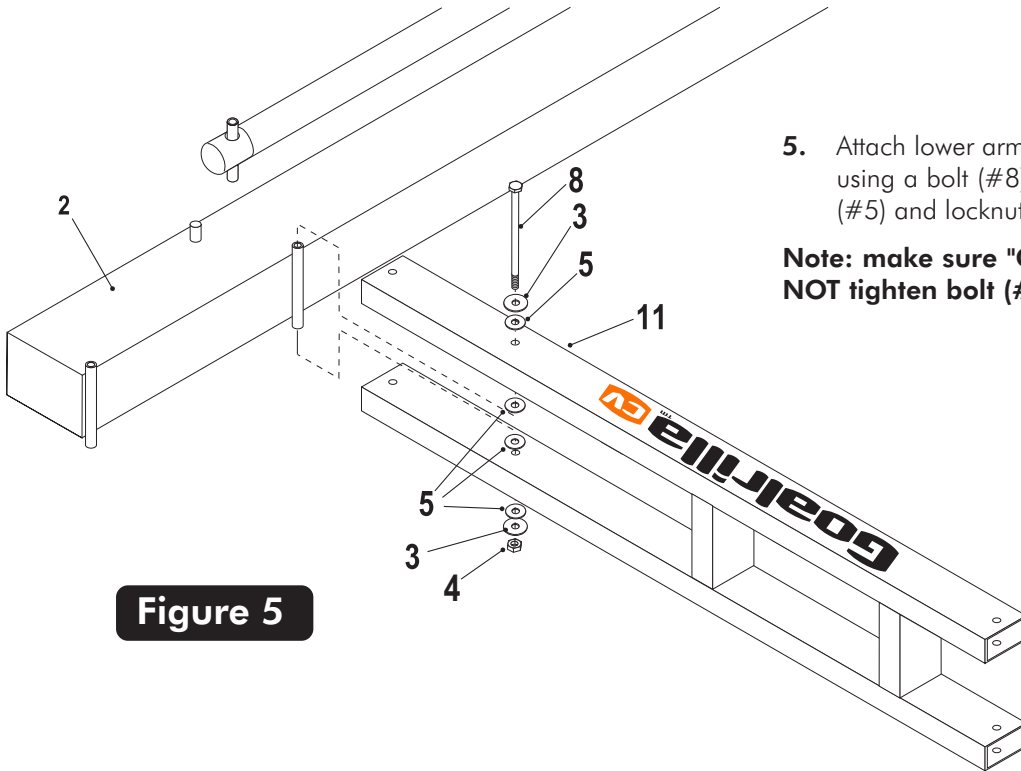

Figure 5
5. Attach lower arm (#11) to Pole (#2), as shown in Figure 5, using a bolt (#8), two flatwashers (#3), four plastic washers (#5) and locknut (#4).